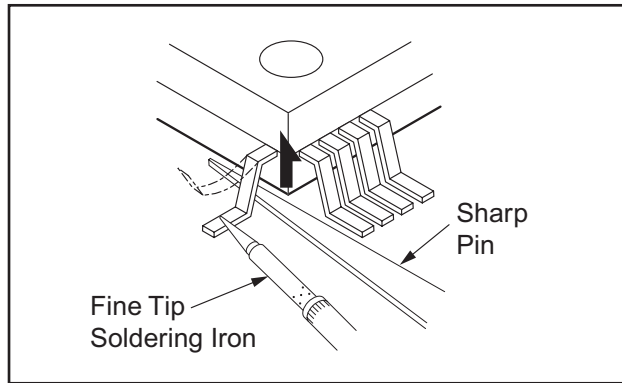

Fig.2-4
- (2) Lift each lead of the flat pack-IC upward one by one, using a sharp pin or wire to which solder will not adhere (iron wire). When heating the pins, use a fine tip soldering iron or a hot air desoldering machine. (Fig.2-4)